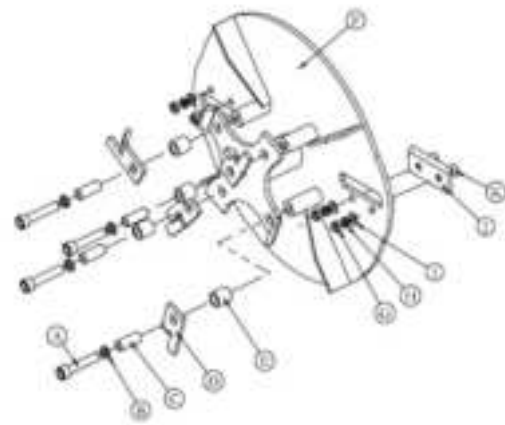

Figure 10
4. Note the assembly sequence of the hardware used to secure the hammers. Using an allen wrench, remove the socket head cap screw (A) and related hardware. See Figure 10.
5. Inspect the hammers (D), spacer tubes (C, E), and hardware. If the spacer tube (E) shows signs of wear, replace it. Inspect and flip, or replace the hammers (D).
6. Reassemble the hammers, spacers, washers, and cap screws. Torque the socket head cap screws (A) back tightly.